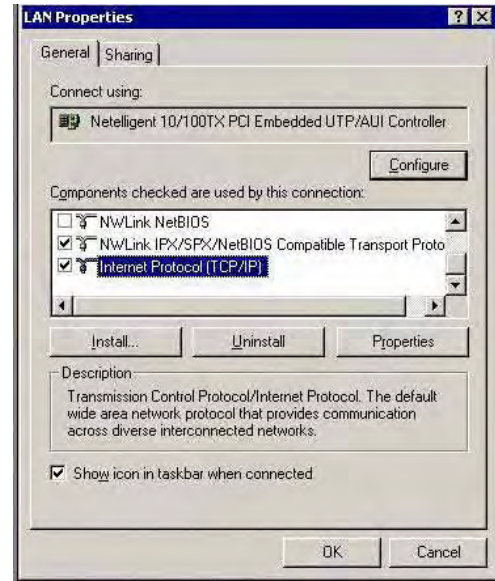

Figure 4
2. Select "TCP/IP protocol" in the visualised window and click "Properties" (Figure 4).